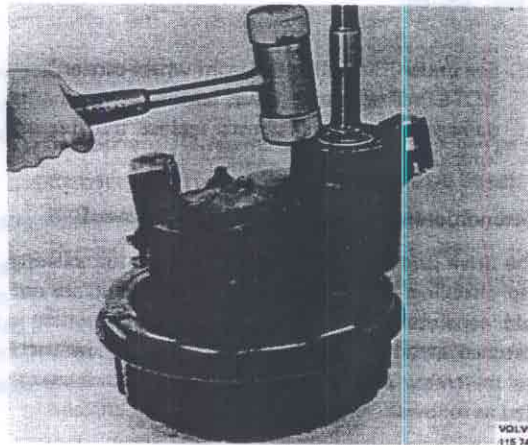

Fig. 46-87. Removing drive shaft joint
1. Secure the drive shaft in a vice provided with copper jaws or similar. Knock the drive shaft joint out of the drive shaft by knocking on the shaft pin, Fig. 46-87, with a plastic mallet.